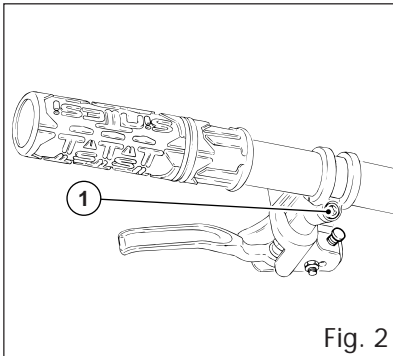

Fig. 2
2.2 - Mounting of the open system (fig 2 & 3)